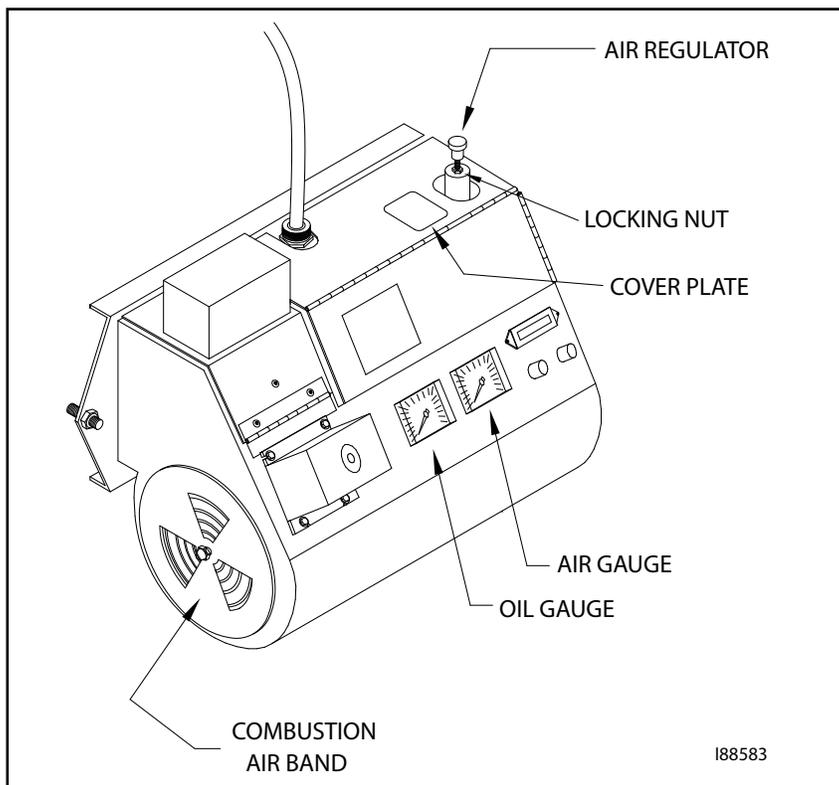

Figure 6A - Component Detail of the CB-525-S2 Burner for CB-3500 Furnaces
4. Refer to Figure 6A or 6B (depending on your burner model) to locate the air regulator. Loosen the locking nut on the air regulator.
- Refer to **Figure 6A** to locate the combustion air band. Note that the CB-525-S2 burner has an adjustable combustion air band.
- Refer to Figure 6A to identify the combustion air band location on the burner.